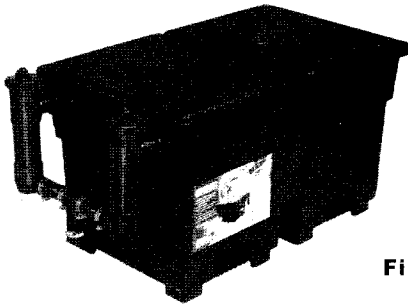

Figure 1
1. Place the filter on a steady platform, connect all hose as Figure 1.